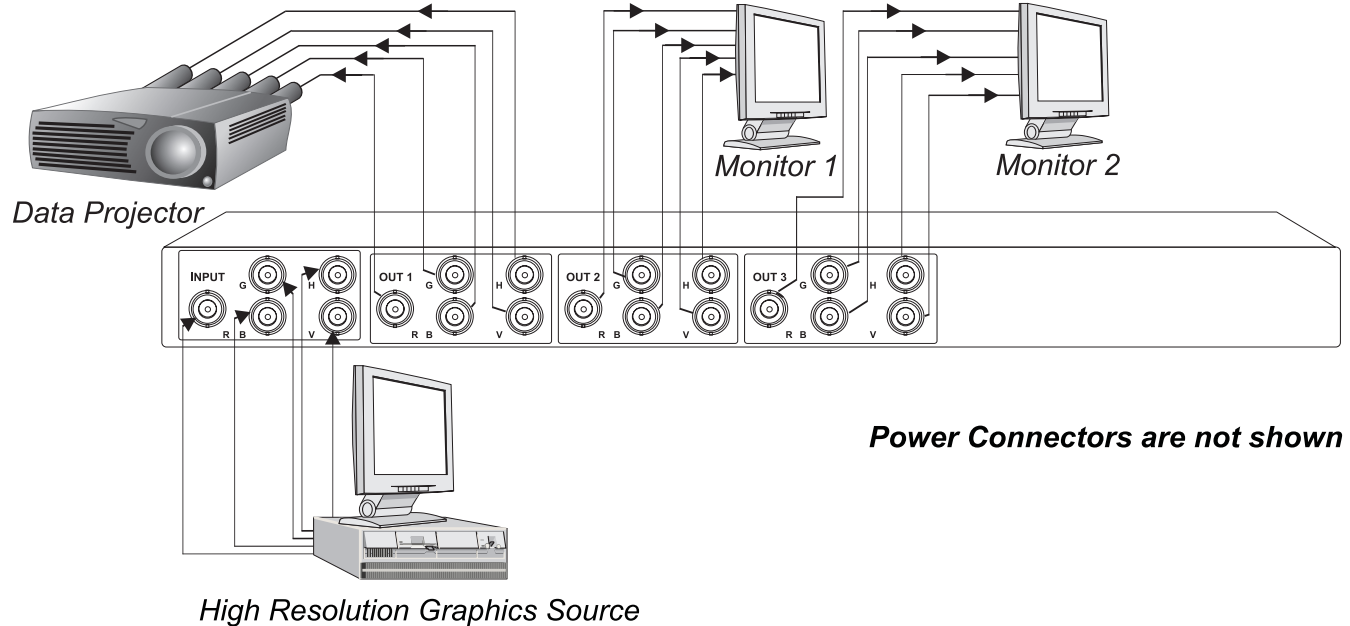

Figure 3: Connecting the VP-123 1:3 RGBHV Distributor
To connect the **VP-123** 1:3 RGBHV Distributor, as the example in Figure 3 illustrates, do the following:
3. Connect the appropriate power connector (not shown in Figure 3), either: